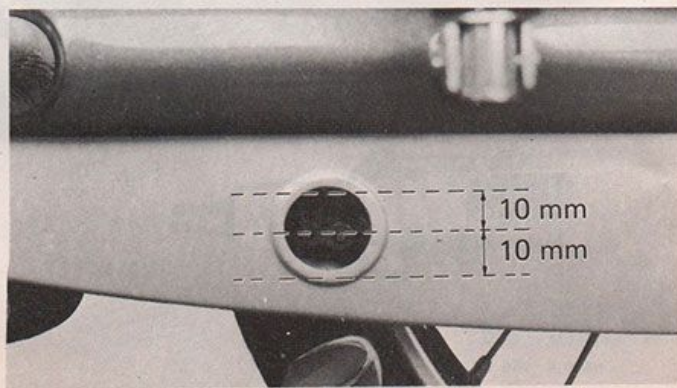

Fig. 26
- Move the chain up and down to check chain play with the rear wheel on the ground (Fig. 26). If total play is more than 7/8 inch (23 mm) adjust it to no less than 3/4 inch (20 mm).